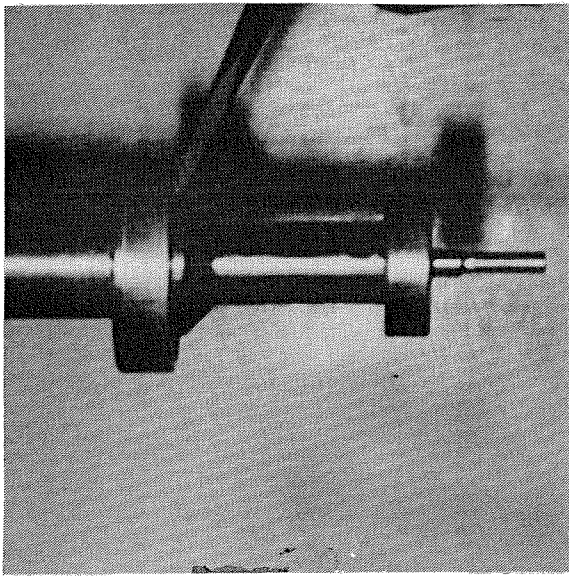

FIGURE 5-23
K. THE BALL BEARINGS, (#7 & #8) CAN BE REMOVED FROM THE SWIVEL SHAFT, (#2) BY USING A CHISEL BETWEEN THE SHAFT SHOULDER AND THE INNER BEARING RACE AS SHOWN IN FIGURE 5-23.